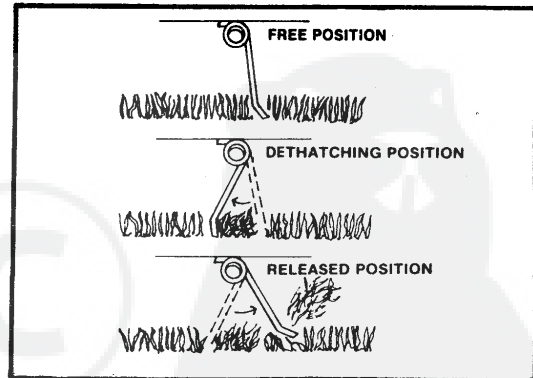

Fig. 6
Refer to Figure 6.
- When in use, all tines on the Thatcherator should deflect back and "flip" the thatch forward as shown in Fig. 6.